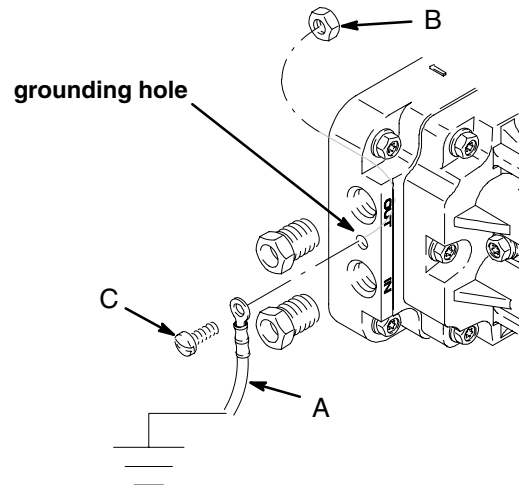

Fig. 1
The *polypropylene and Kynar® pumps* are **not** conductive. When you pump conductive flammable fluids, **always** ground the entire fluid system. Make sure the fluid has an electrical path to a true earth ground, see Fig 1. **Never** use a polypropylene or Kynar® pump with non-conductive flammable fluids as specified by your local fire protection code.
Pump: Connect a ground wire (A) and clamp, Part No. 819.0157. See Fig. 1. The pump grounding locations are on the manifold between the inlet and outlet ports. Use the nut (B) and bolt (C) that are provided with the pump, and install as follows: